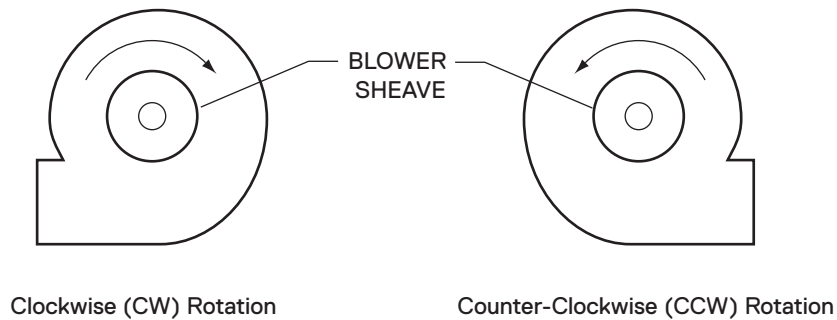

Figure 5
- 15 Apply power to the blower motor momentarily (bump start) to check for proper blower wheel rotation. If the blower is rotating in the wrong direction, reconnect the motor leads per the motor manufacturer’s wiring schematic. **Blower rotation is determined by viewing the blower from the motor side of the blower, NOT from the inlet side.** After reconnecting the leads, repeat this step. See **Figure 5**.